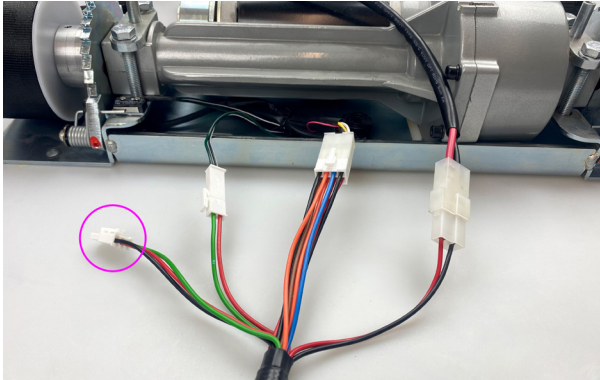

Figure 11: Connecting the Winch Branch Cable
- ⇒ Connect the three connectors on the winch connection branch cable to the connectors on the winch (see Figure 11, page 37).
The connector, marked with a violet circle in Figure 11, page 37, need not be connected.
The connector, marked with a violet circle in Figure 11 is provided to enable the EasyPull 2.0 to be equipped with status LEDs. Contact the customer services department, if you intend using this connector (see Chapter 14, page 90).